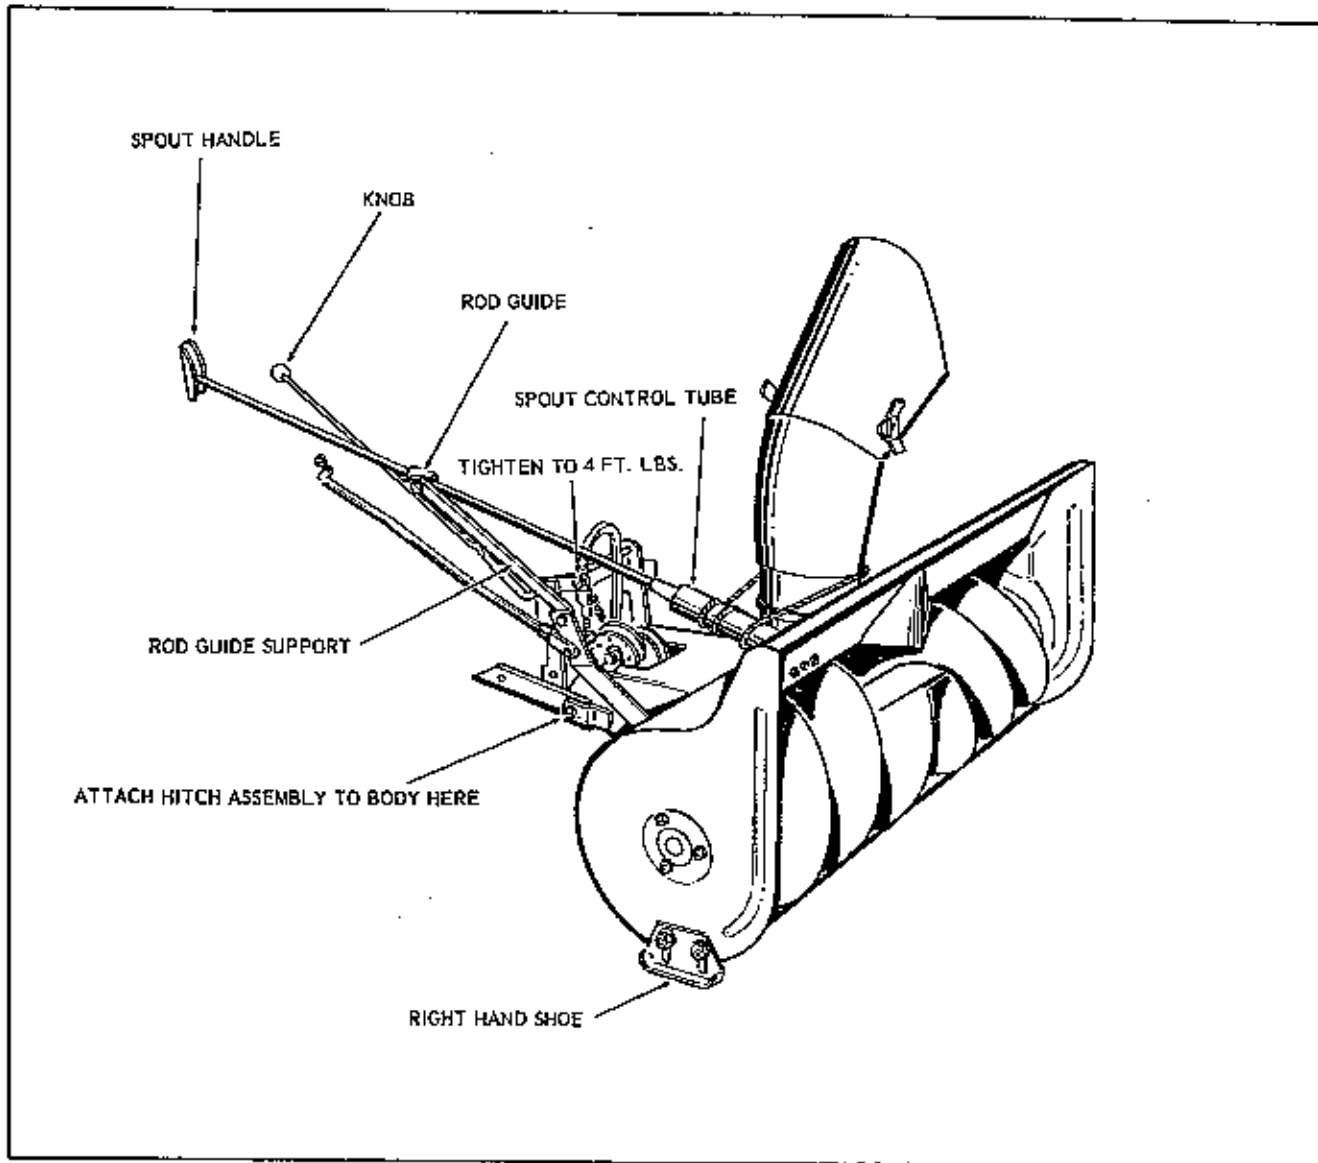

FIGURE 1
1. Attach Hitch Assembly to Rotor Body Assembly with the 3/8"-24 x 1-1/2" long Hex. Head Bolt, 3/8" plain and 3/8" Spring Washer. Secure in place with the 3/8"-24 Hex. Full Lock Nut. See Figure 1. Tighten with sufficient pressure to keep Hitch from drooping when installing Blower to Tractor.
9. Attach Rod Guide Support to top hole of Lift Rod Bracket with 3/8"-16 x 1-1/4" Capscrew, 3/8" Lock-washer, and 3/8"-16 Full Hex. Nut. DO NOT TIGHTEN. See Figure 1. Insert Spout Control Tube Assembly into bearing and secure in place with 2-1/8" x 3/4" Cotter Pins. Tighten the 3/8"-16 Full Hex. Nut on Rod Guide Support which is in top hole of Lift Rod Bracket, at desired angle of the operator while on seat. See Figure 1.